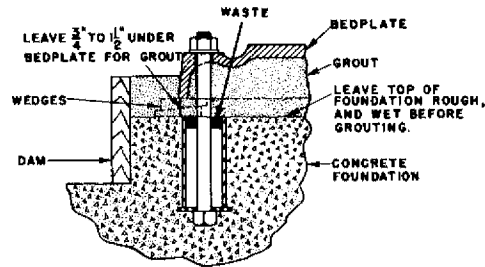

Figure 2
The I. D. of the sleeve should be $2\frac{1}{2}$ -3 times the bolt diameter. Place a washer between the bolt head and sleeve to hold bolts. See Fig. 2.
- Build wood dam around foundation as shown in Fig. 2, and thoroughly wet top surface of foundation. Pour grout in hole provided in top of bedplate. Use of non-shrink grout is recommended. Grout should be thin enough to flow out under the bedplate but not so wet that sand and cement will separate. Grout should be puddled continuously as it is poured to expel the air and completely fill the space under the bedplate to the level of the grout hole. Strike along top of dam with trowel to give a neat finished appearance. Allow grout to harden at least 48 hours.